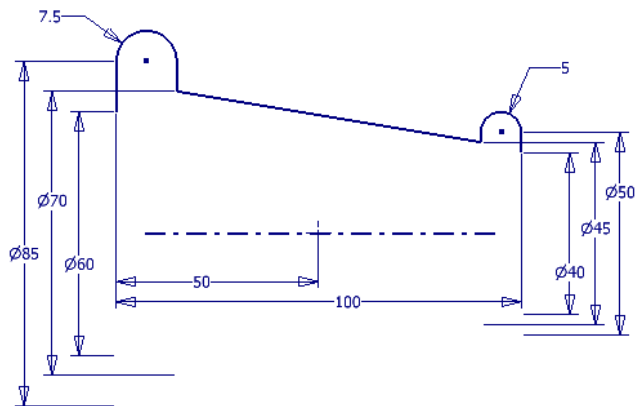

Figure 18-52 Fully constrained sketch for the base surface
- a. Open a new part file and then create the sketch shown in Figure 18-52 on the default XY plane.
1. Open a new metric standard part file and then draw the sketch on the XY plane, as shown in Figure 18-52. Constrain the sketch fully by specifying dimensions and geometric constraints.